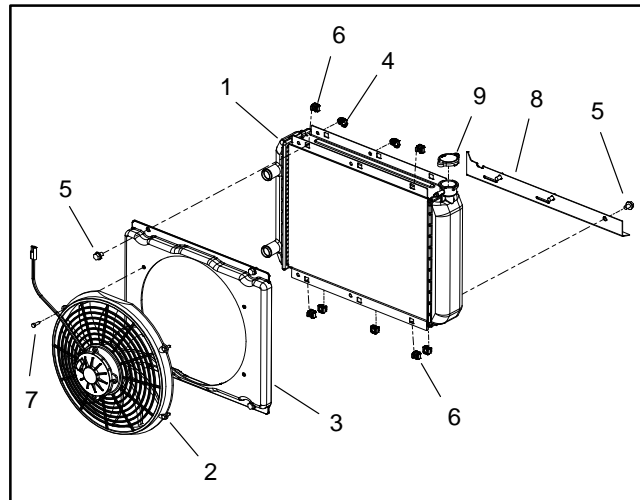

Figure 13
- A. Remove two (2) flange head screws and flat washers that secure the top of the radiator assembly to the mount.
- B. Remove two (2) flange head screws and flange nuts that secure the bottom of the radiator assembly to the mount.
13. If necessary, remove components from radiator (Fig. 13).
1. If radiator assembly was disassembled, install components to radiator using (Fig. 13) as a guide. Make sure that clearance exists between shroud and fan at all points.
6. Make sure that snubbing washer is positioned on top of both engine mounts (Fig. 13).